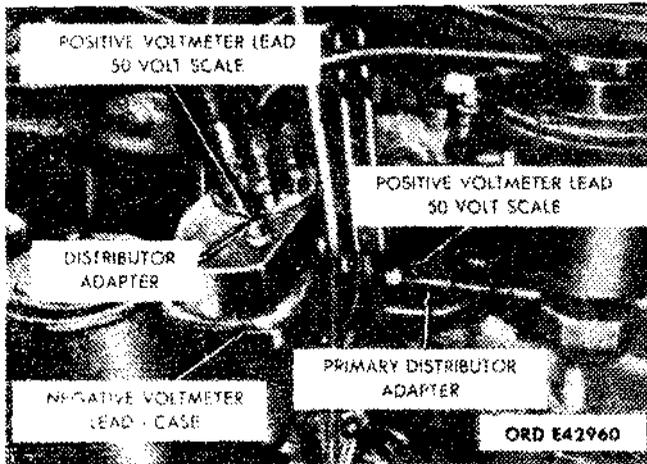
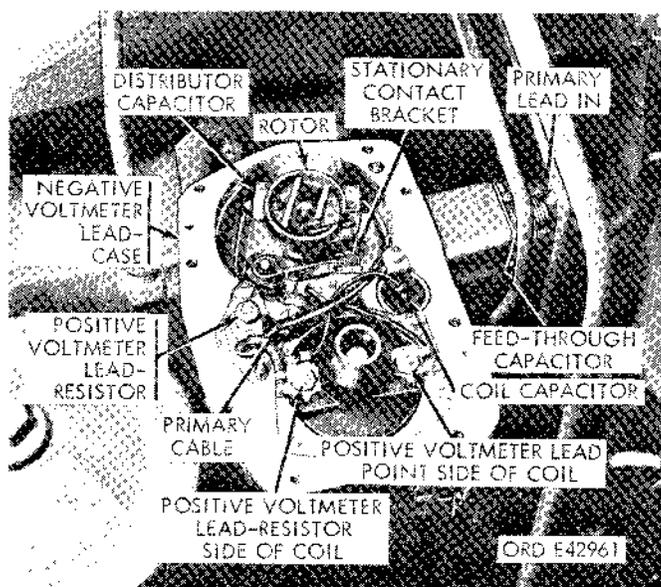

Figure 2-35. Ignition circuit test
Figure 2-37. Distributor with cover removed.
(1) Disconnect the primary wire at the distributor and insert the primary ignition adapter. Unscrew the plug from the top of the distributor and insert the distributor adapter (fig. 2-35).
(2) Place the voltage selector in the 50-volt position and ground the negative (-) lead.
(3) Connect the positive (+) lead to the primary adapter; turn on the ignition switch. The meter should read battery voltage. (If voltage is present, skip the ignition switch checks, since this indicates that the ignition switch is functioning.)
(3) Place the voltage selector in the 50-volt position and ground the negative (—) lead.
(4) Replace the ground cable on the battery. The meter should read battery voltage.
(5) If voltage is present, remove the ground cable and connect the No. 10 wire to the switch.
(6) If no voltage is present, go to the generator regulator and disconnect the battery side of the regulator.
(7) Connect the voltmeter lead to the A pin of the disconnected plug on the harness.
(8) With the battery ground strap connected and the negative (—) lead of the meter connected to ground, the battery voltage should show on the meter.
(9) If voltage is present, take a small jumper lead and connect it from pin A on the harness to pin C. (Make checks a, b, c, and d above and below.) If voltage is now present, replace the regulator (para 2-132). If no voltage is present, check the wiring for breaks or shorts and repair as required (para 2-26).
c. Distributor Tests, Cap On (Fig. 2-35).
(1) With the voltage selector on the 50-volt scale, ground the meter to the side of distributor.
(2) Connect the positive (+) lead to the distributor adapter (fig. 2-35).
(3) Turn on ignition switch.
(4) Observe the voltmeter. The voltmeter should read low voltage or battery voltage, depending on the distributor point position.
(5) If the points are open the voltmeter should read battery voltage.
(6) If the points are closed, the voltmeter should be on zero or have a maximum voltage of three-tenths of a volt.
(7) If the voltmeter reads battery voltage, but will not drop when the points close, the points are defective. Remove and replace the points or the distributor.
(8) If the voltmeter will not read battery voltage when the points are open, distributor components are defective. Remove and replace the distributor or check it in accordance with the following procedure.
d. Distributor Test, Cap Removed (fig. 2-37).
(1) Remove the distributor cap with the ignition switch off.
(2) Ground the negative (—) lead of the meter to the case selector in the 50-volt position.
(3) Use a short jumper lead, and connect it across the points.
(4) Turn on the ignition switch.
(5) Connect the positive (+) lead of the meter to the top of the resistor. The voltage reading should be 24 volts. If not the primary circuit or feed-through capacitor is defective.
(6) Connect the positive (+) lead of the meter